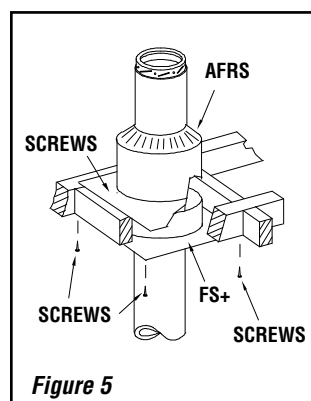

Figure 5
**Step 7.** At the attic level, install a firestop plate (FS+), from below and an attic radiation shield (AFRS) from above (see figure 5).